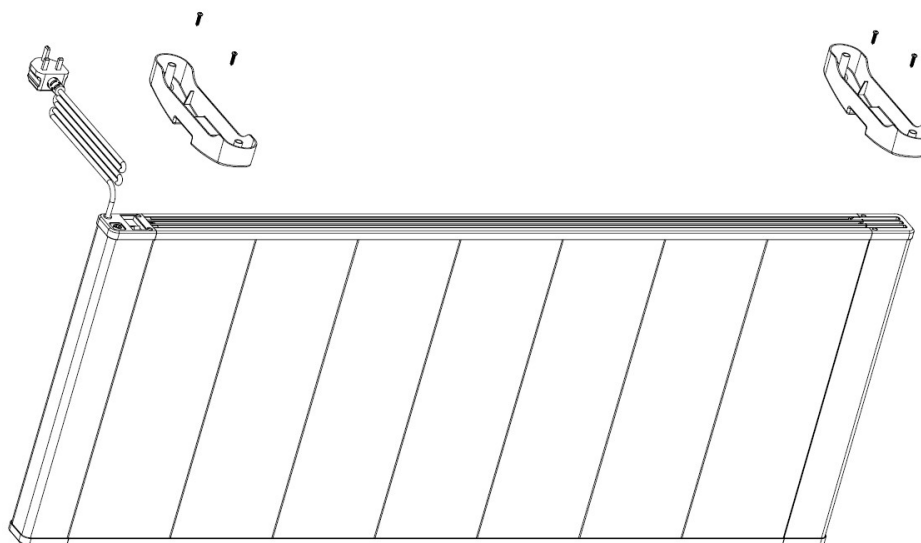

Figure 5 | Fixing the feet
3. Use two 4*20mm screws to attach each foot (see **Figure 5**).